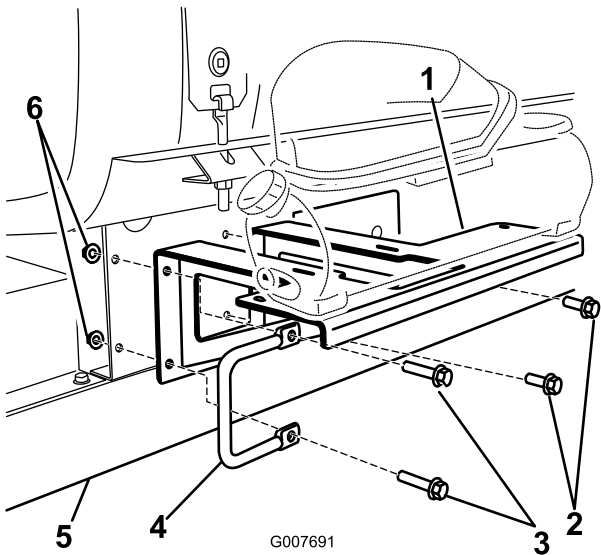

Figure 7
- 3. Mount the bracket to the frame using 2 bolts (3/8 x 1-1/4 inches), 2 washers (3/8 inch), 2 flange nuts (3/8 inch) included in loose parts; and the left handle and fasteners removed previously (Figure 7).